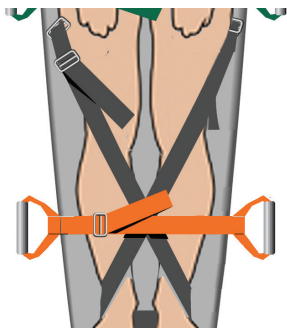

Figure 7
5. Once the figure of eight is complete, secure the final orange cross strap. This should be secured where it lies on top of the foot loop as shown on Figure 7.